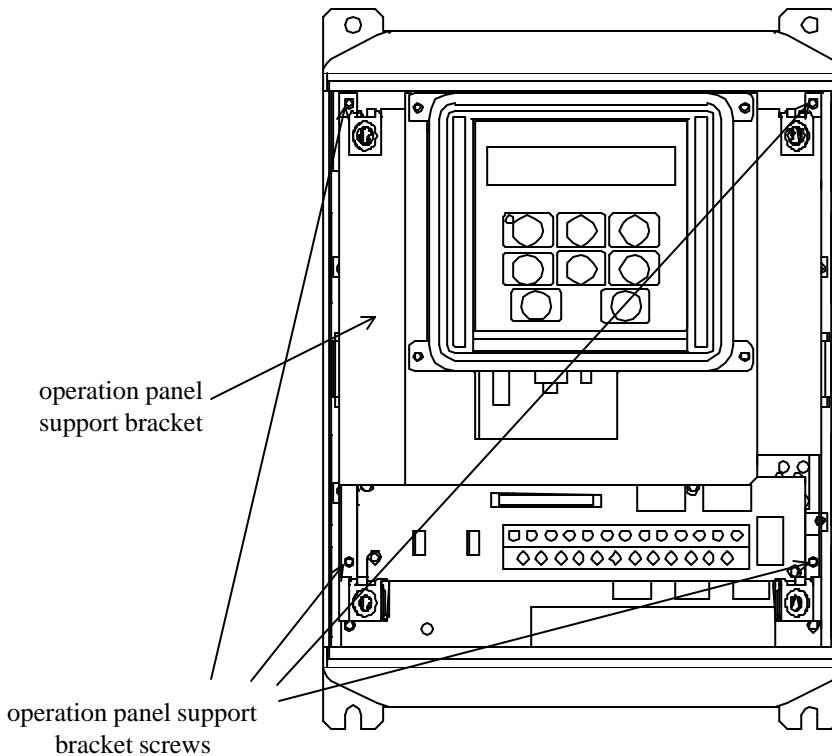

Figure 3: G3 with front cover removed
4. Loosen the 4 screws attaching the operation panel support bracket to the control board support bracket and remove the operation panel and support bracket as a unit (refer to Figure 3).